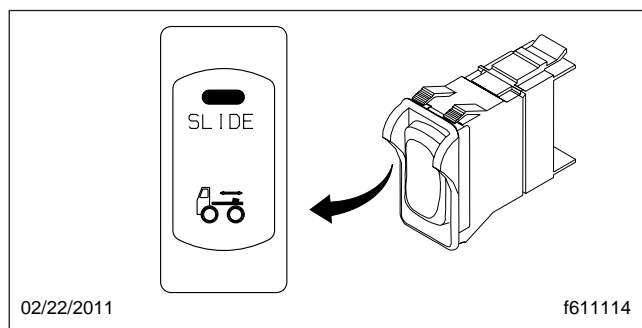

Fig. 10.14, Air-Slide Switch
The slide feature may be operated with an air switch mounted in the dash, that operates an air cylinder that locks and unlocks the slide. See Fig. 10.14.
1. Set the air-slide switch to UNLOCK. See Fig. 10.14